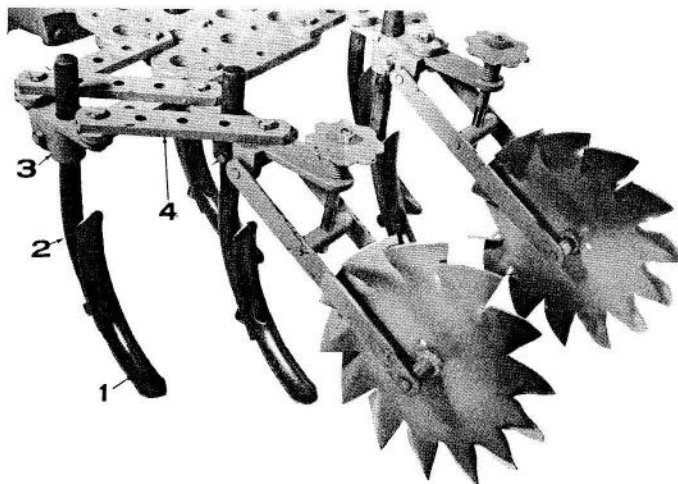

Figure 25
The Cultivator Toolholder, shown in Figure 25, can be used to hold a variety of cultivating tools. The most common set-up of cultivating tools in the Toolholder is shown.
**Attaching Tools to Toolholder:** the individual cultivating tool (1 in Figure 25), is attached to a Shank, (2 in Figure 25), which in turn is attached to the Toolholder by a Shank Holder (3 in Figure 25).
**Parallel Bars:** the Parallel Bars, (4 in Figure 25), can be adjusted in several ways, depending on the task. Usually it is necessary to detach the Bars from the Depth Wheels to make these different set-ups.
Five-Steel Set-Up is the standard arrangement; 1-1/4-inch wide Steels are used. (Figure 25).